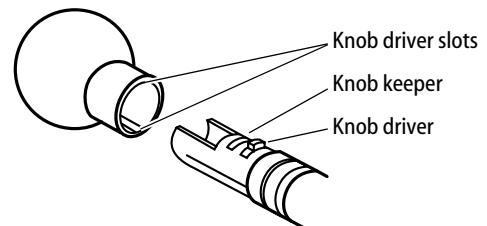

Figure 8 Installing the inside keyed knob
- 2 Align either of the knob driver slots with the knob driver in the sleeve as shown in Figure 8. Firmly push the knob on until seated.